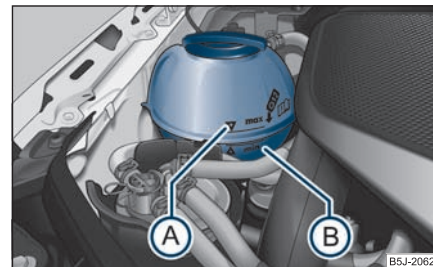

Fig. 184 Engine compartment: Coolant expansion bottle
- Check the level of coolant in the coolant expansion bottle ➡ fig. 184. The coolant level when the engine is cold must lie between the “MIN” (B) and “MAX” (A) markings. The level may also rise slightly above the “MAX” marking when the engine is warm. ▶
- Place a cloth over the cap of the coolant expansion reservoir ⇒ page 189, fig. 184 and unscrew the cap **carefully** by turning it to the left ⇒ .